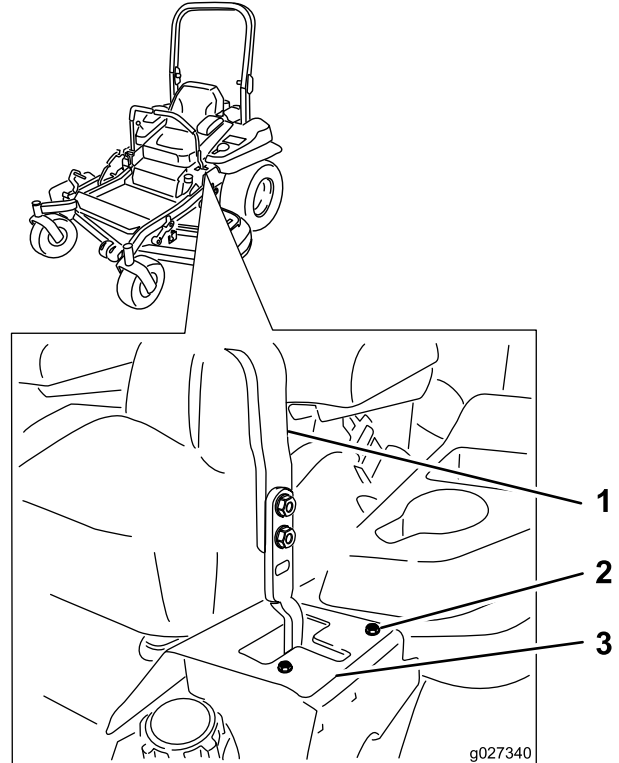

Figure 66
6. If the machine tracks to the right, loosen the bolts and adjust the left stop plate rearward on the left T-slot until the machine tracks straight (Figure 66).
7. If the machine tracks to the left, loosen the bolts and adjust the right stop plate rearward on the right T-slot until the machine tracks straight (Figure 66).
8. Tighten the stop plate (Figure 66).